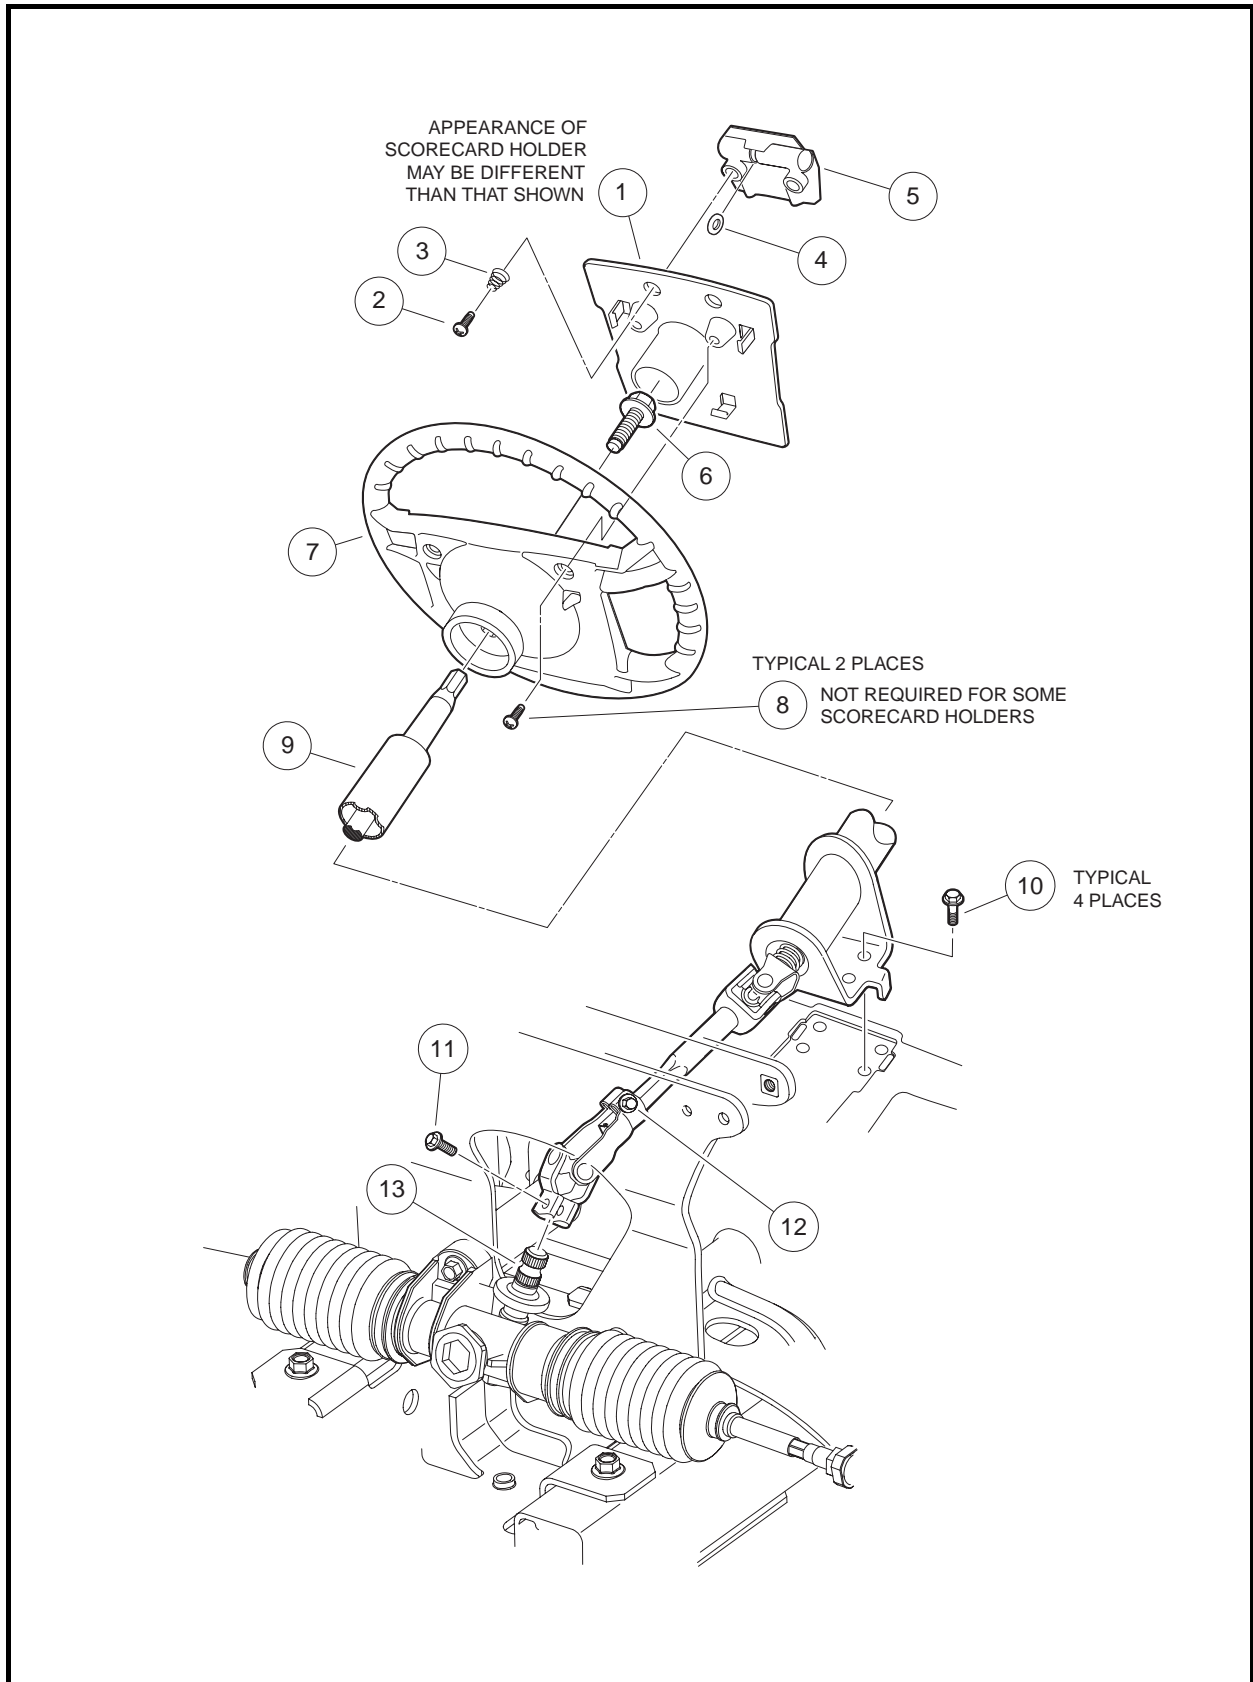

Figure 7-3 Steering Column
2. If scorecard holder is secured to steering wheel with screws, remove the two mounting screws (8) (**Figure 7-3, Page 7-3**).
3. Remove the scorecard holder plate (1).
4. Match mark the steering wheel (7) and steering column shaft (9) so when the steering wheel is removed it can be placed back in exactly the same position on steering column shaft.
5. Loosen the steering wheel bolt (6) and back it off approximately 1/4 inch (6 mm). Do not remove the bolt.
- 6.6. Remove the steering wheel bolt (6) and the steering wheel (7) from the steering column (9) (Figure 7-3, Page 7-3).
1. Install the steering wheel (7) on the steering column shaft (9). Be sure to align the match marks placed on the wheel and steering column in step 4 above (Figure 7-3, Page 7-3).
2. Install the steering wheel bolt (6) and tighten to 13 ft-lb (17.6 N·m).
3. Install the scorecard plate (1).
4. If required, install the plate mounting screws (8). Tighten screws to 16 in-lb (1.8 N·m).
4. Loosen the bolt (11) that attaches the steering column universal joint to the stud on the steering gear **(Figure 7-3, Page 7-3)**.
5. Remove the four bolts (10) that attach the steering column to the frame.
2. Insert the end of the steering column with the universal joint through the front underbody. Position universal joint over splined stud on the steering gear. Leave bolt (11) loose until steering column is mounted to frame in step 3 **(Figure 7-3, Page 7-3)**.
3. Align the holes in the steering column mounting bracket with holes in the vehicle frame. Secure column to frame with four bolts (10). Tighten bolts to 18.4 ft-lb (25 N·m).
4. Tighten universal joint bolt (11) to 18.4 ft-lb (25 N·m). Verify bolt (12) torque is 18.4 ft-lb (25 N·m).
2. Align the flat portion of the shaft (13) spline with the bolt hole in the upper universal joint and then slide the shaft into the universal joint. Install the bolt and tighten to 18.4 ft-lb (25 N·m) (**Figure 7-3, Page 7-3**).